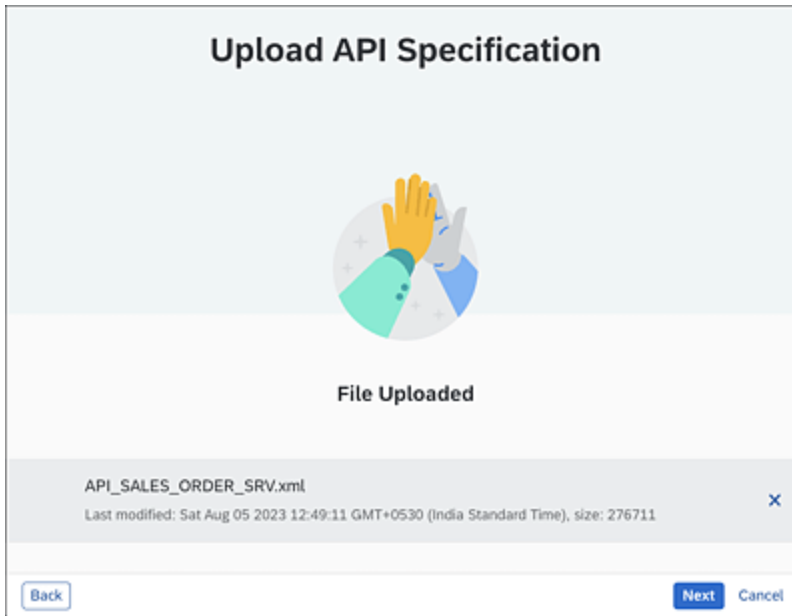

Figure 18.62 Uploading the API Specification
3. Click **Browse Files**, and add this specification file. Click on **Next** (see Figure 18.62).